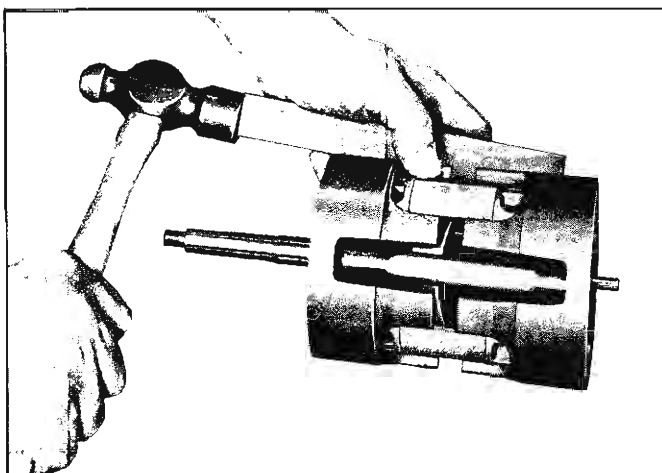

Fig. 30—Separating Cylinder Halves
3. Drive the cylinder halves apart and free from the dowel pins and discharge crossover tube using a fiber block and mallet (fig. 30). Discard the discharge crossover tube.